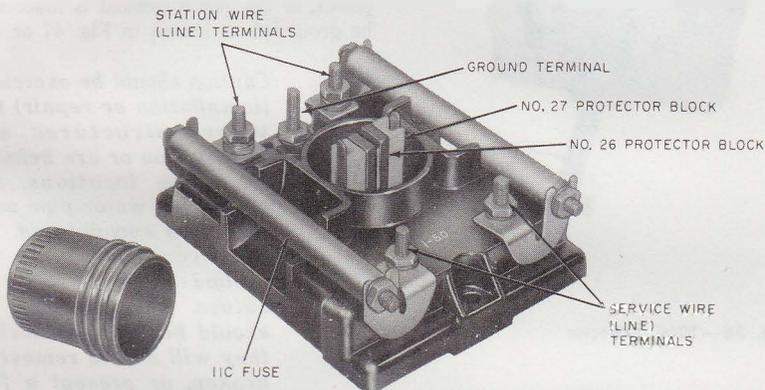

Fig. 41—98A (MD) Protector
5.06 At older installations, the 98A(MD) protector may still be in use. The 98A(MD) protector (Fig. 41) consists of a base of nonconductive material containing five binding posts, two 11C fuses, and a carbon block protector well arranged for the use of No. 26 and No. 27 protector blocks. For outside installations, the 98A(MD) protector is mounted in a 93C protector mounting.